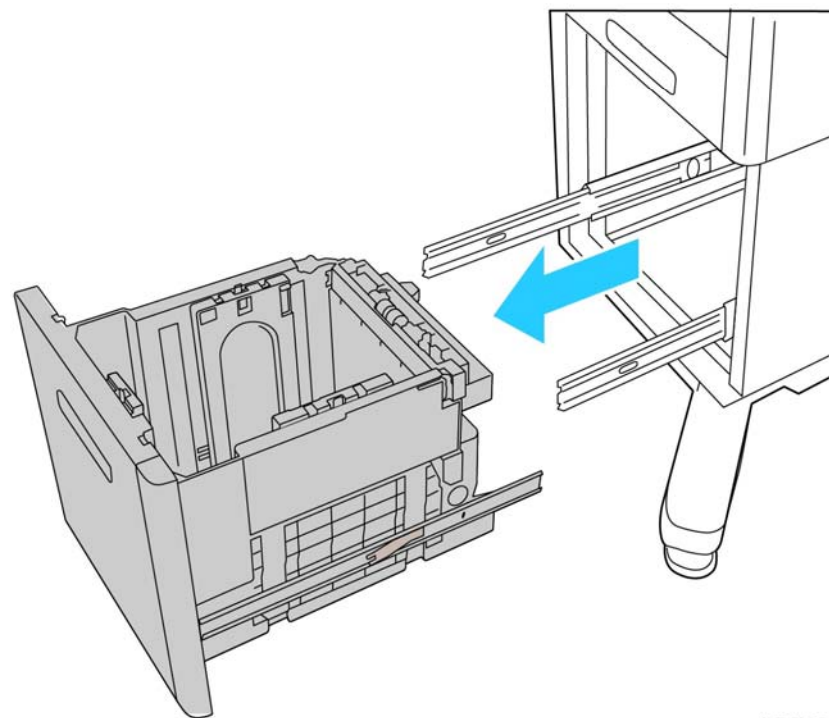

Figure 2 Installing the HCF feeder drawer
1. Push both slide rails all the way into the cabinet, Figure 2.